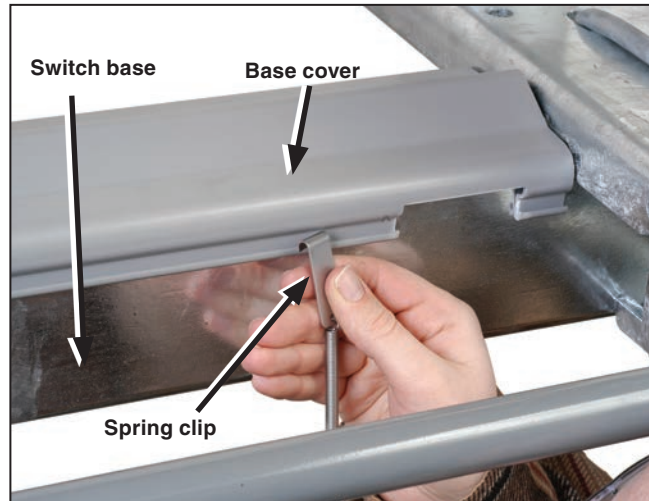
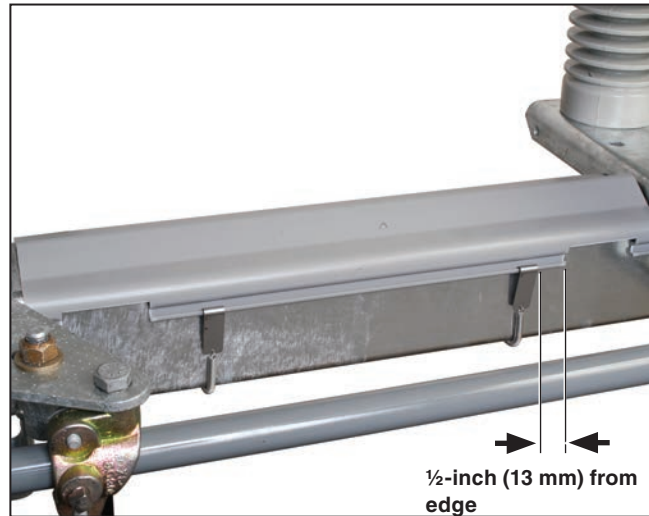

Figure 10. Hook one end of spring clip into base cover lip. Stretch underneath base and hook on opposite side.
Figure 11. Make sure clips are installed approximately $\frac{1}{2}$ -inch (13 mm) from edge of cover.
- STEP 8.** Hook one end of the spring clip assembly into the lip on the edge of one side of the base cover. See Figure 10. Bring the spring clip underneath the switch base and stretch it until it can be hooked into the lip on the edge of the opposite side of the base cover. Make sure the spring clip is approximately $\frac{1}{2}$ -inch (13-mm) from the edge of the base cover. See Figure 11. Install the remaining spring clips on their respective base covers in accordance with the supplied RD drawing.